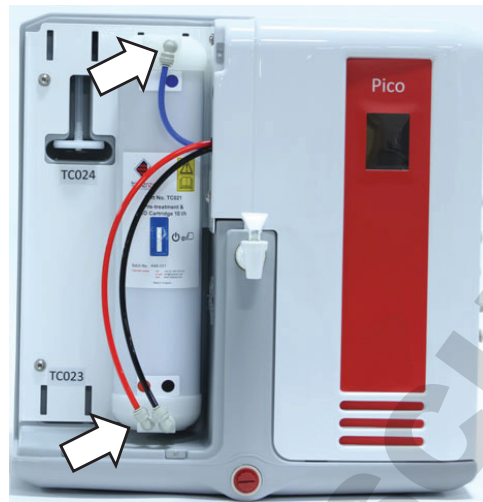

Figure 5. Pre-Treatment and RO module connections.
4. Connect the color tubing (blue, red, and black) to the fitting with the corresponding color label on the cartridge. See Figure 5.